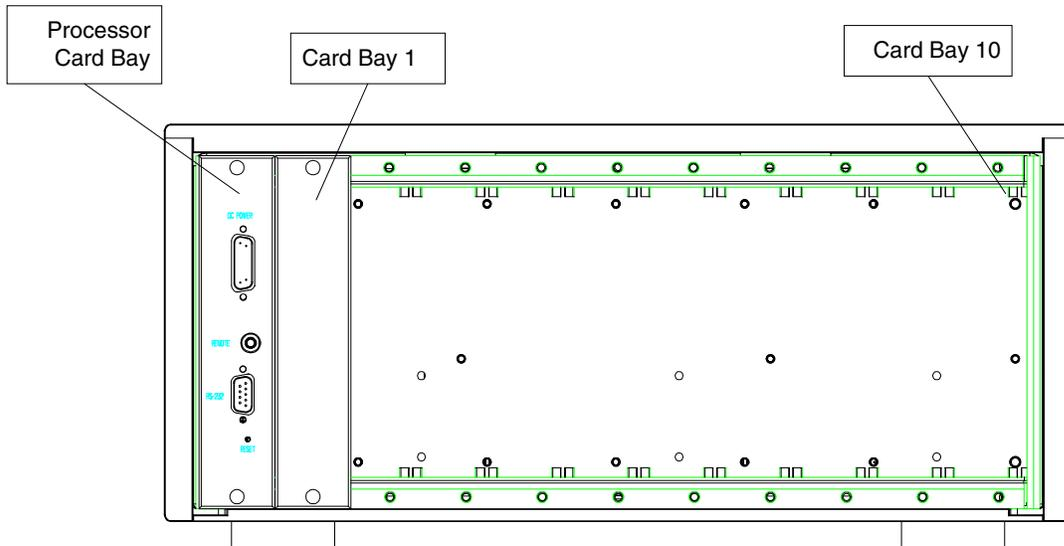

Figure 4: Spirito Rear View
- Selecting the *bus pair* icon will bring you to the bus pair screen shown in Figure 4. This is where the module bus routing is configured. The V20 input module can be assigned to all four-bus pairs. This feature is useful for multi-room and surround applications with multiple V30 output modules. Highlight the bus pair box you want and then with the box highlighted hit the return box.